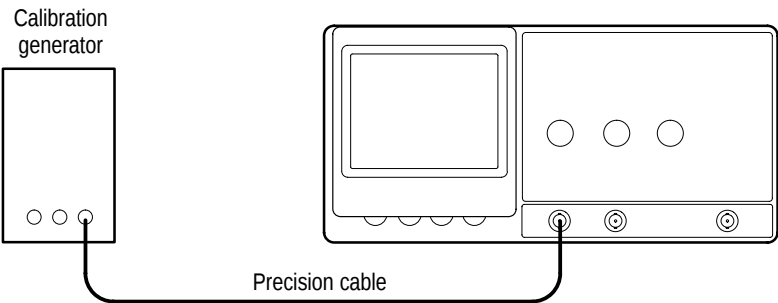

Figure 2: Gain and Voltage Check Setup
1. Use the 50 Ω precision coaxial cable to connect the standard amplitude output of the DC calibration generator to the TAS 200 series oscilloscope CH 1 (CH 2) input. See Figure 2 below.